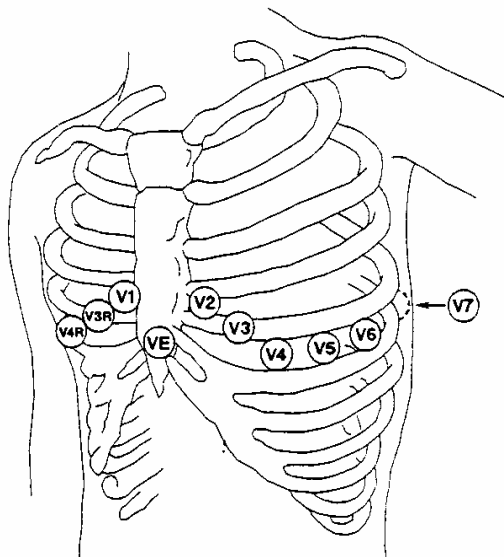

Figure 12-3 C-electrode Placement for 5-lead Set
- Red (R) electrode - Be placed near the right shoulder, directly below the clavicle.
- Yellow (L) electrode - Be placed near the left shoulder, directly below the clavicle.
- Black (N) electrode - Be placed on the right hypogastrium.
- Green (F) electrode - Be placed on the left hypogastrium.
- White (C) electrode - Be placed on the chest as illustrated in the Figure 12-3.
For 5-lead set, attach the C(V)-electrode to one of the indicated positions as below (Figure 12-3):